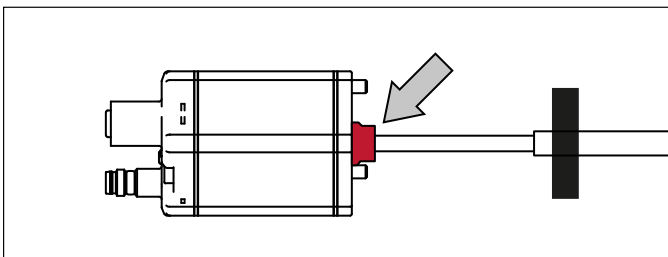

Fig. 32: Remove sealing before inserting into sensor rod HD/HL/HP
- The base unit is mounted by means of three screws. It is the only part that needs to be replaced if servicing is required, i.e. the hydraulic circuit remains closed. Before inserting the base unit into the sensor rod HD/HL/HP, remove the red sealing at the transition between the sensor electronics housing and the flexible sensor rod (Fig. 32). For more information see chapter “4.10.1. Replacement of base unit on the RH5/RFV/RF5 model” on page 40.